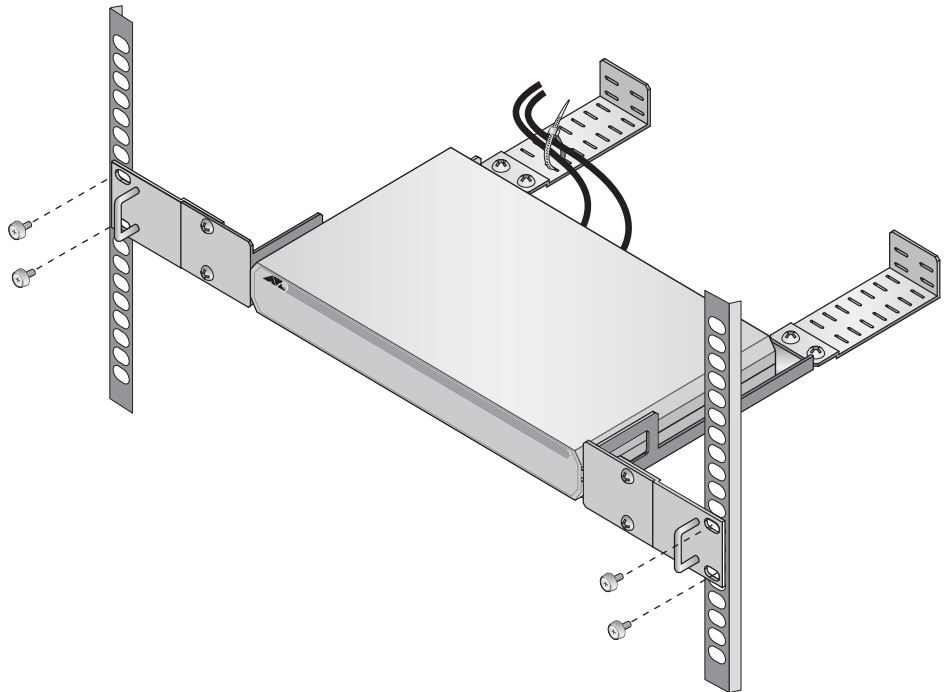

Figure 26. Securing cables to the cable tray for an AT-x210-9GT
12. Secure cables to the cable tray fitted earlier, as shown in Figure 26.